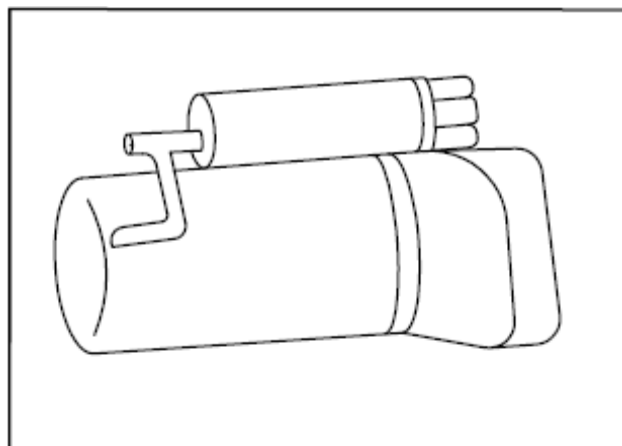

Fig.5-31
Motor de arranque Fig.5-31
5.55 MOTOR DE ARRANQUE (Fig.5-31)